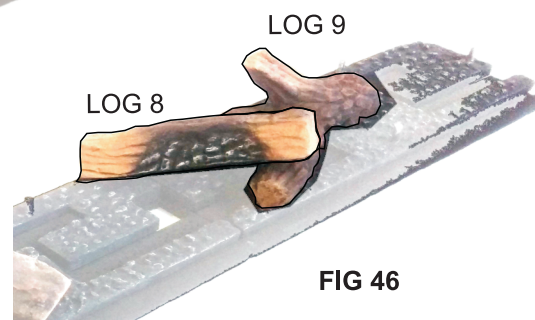

FIG 46
4. Lay Firewood pieces 8 and 9 in position shown in **FIG 46**.